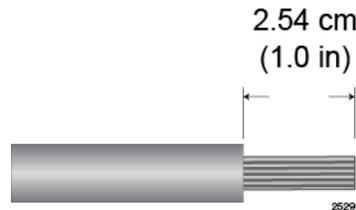

Figure 117. Stripping the solid or Stranded Grounding Wire
1. Prepare an adequate length of solid or stranded 10 AWG grounding wire by stripping it as shown in Figure 117.